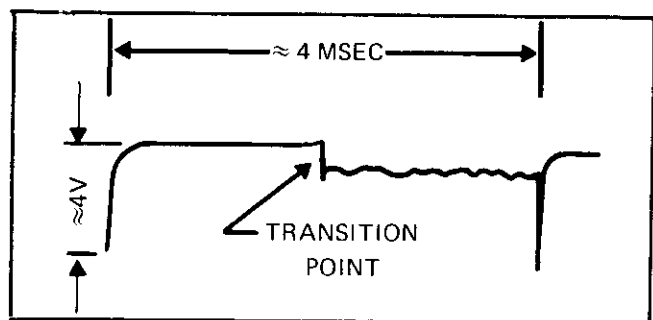

Figure 4-5. CHOPPER WAVEFORM
- d. Alternately adjust R43 counter-clockwise and R34 as necessary to obtain maximum squareness of the chopper waveform without a spike at the transition point. When correctly adjusted, waveform should appear as shown in Figure 4-5.